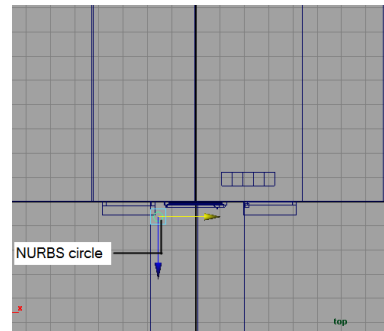

*Figure 3-133 Positioning the door shade curve*
2. Maximize the persp viewport. Select the door shade curve. Press CTRL+d; a copy of the door shade curve is created. Choose **Move Tool** from the Tool Box and drag the blue handle to move the door shade curve to the required location, as shown in Figure 3-133.